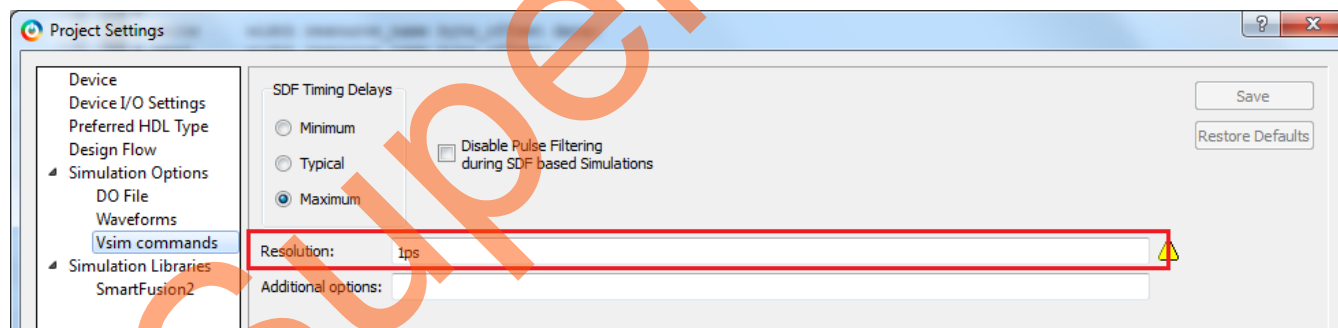

Figure 32. Simulation Resolution
3. Select the **Vsim Commands** option under the **Simulation Options**, and modify the **Resolution** to **1ps**, as shown in Figure 32. This option sets the simulation resolution to 1ps.